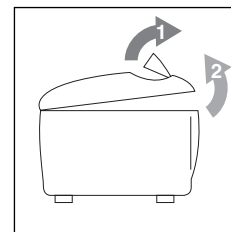

fig. 1
- Open the lid, lifting it by the handle in the direction of arrow 1, then lift it in the direction of arrow 2 (see Fig. 1) and remove the basket and handle.